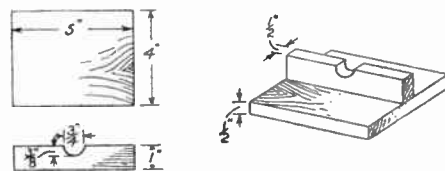

Fig. 6—Cue guide
the cue guide indicated in Fig. 6.
The cue consists of a $\frac{5}{8}$ in. dowel rod about 9ins. long and the end is slightly tapered. For the cue guide cut a piece of wood 5ins. by 4ins. by $\frac{1}{2}$ in. and a piece 5ins. by 1in. by $\frac{1}{2}$ in. Cut the curve, as indicated, in the latter piece, and then glue it on the base as shown in Fig. 6. (109)